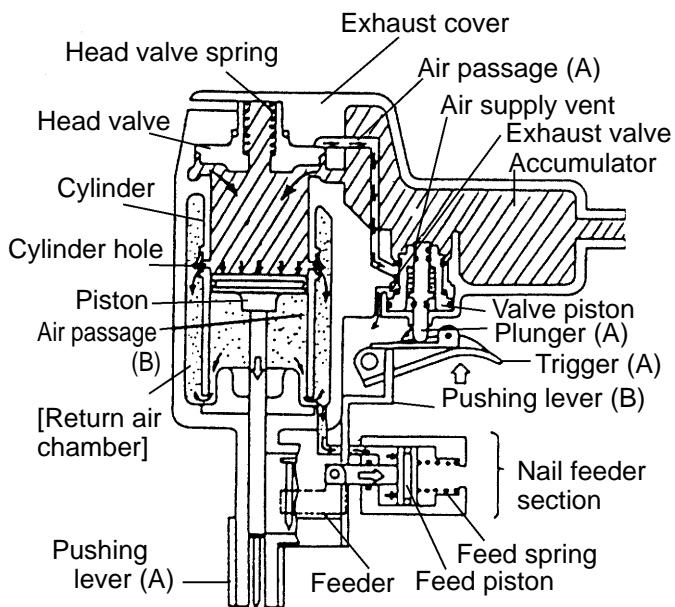

Fig. 7 During nailing (I)
As illustrated in Fig. 7, the Model NV 75AG can be generally divided into four sections:
(2) During nailing (I) (see Fig. 7)